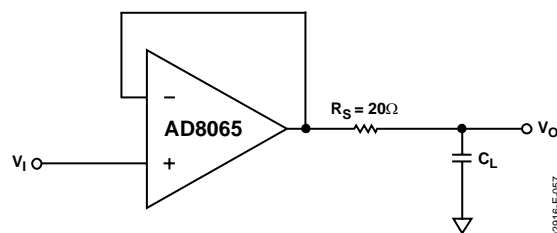

Figure 57. Output Isolation Resistor
- As shown in Figure 57, put a small value resistor (R_S) in series with the output to isolate the load capacitor from the amp's output stage. A good value to choose is $20\text{ }\Omega$ (see Figure 10).